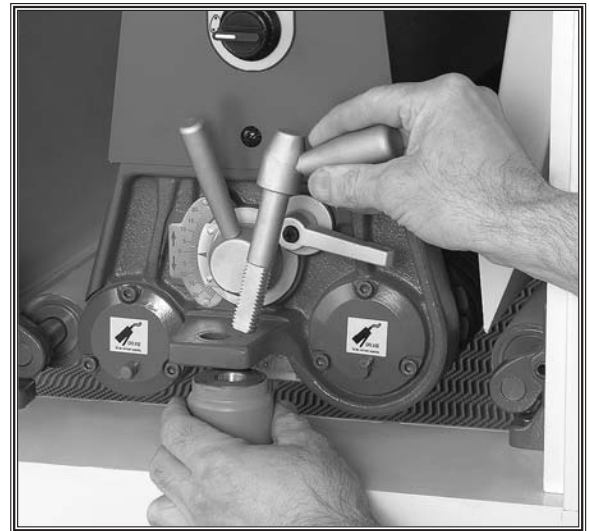

Figure 11. Lever removal/installation.
2. Turn and remove the lever and support spacer as shown in **Figure 11**.